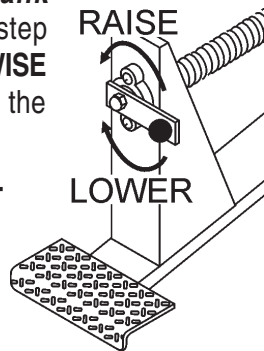

Figure 24. Raise/Lower Crank Handle
1. Using the **Raise/Lower Crank Handle**, located above the step pedal, turn the handle **CLOCKWISE** to **LOWER** the saw blade to the required depth (Figure 24).